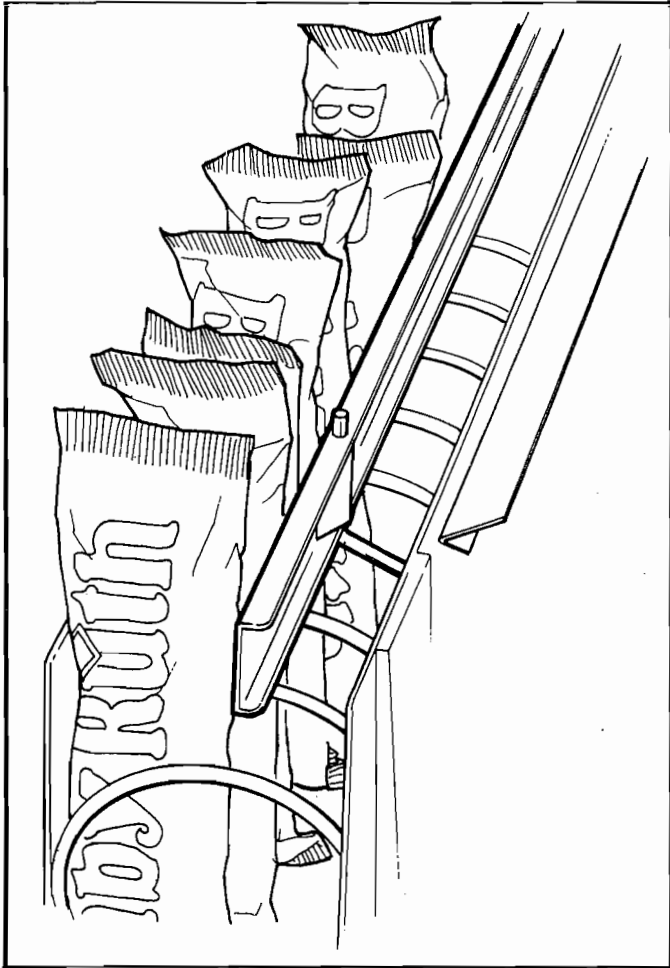

Figure 6. 10 SELECTION SHELF PRODUCT SPACER POSITIONED TO HOLD CANDY UPRIGHT.
8. **PRODUCT SPACERS-10 SELECTION SHELF:** The 10-Selection shelves are equipped with a product spacer (see Figure 6) that can be pivoted from the right side of each product space. These spacers should be pivoted out to hold the product upright, but not tight against the product. Leave about $\frac{1}{8}$ " clearance between the spacer and the product.